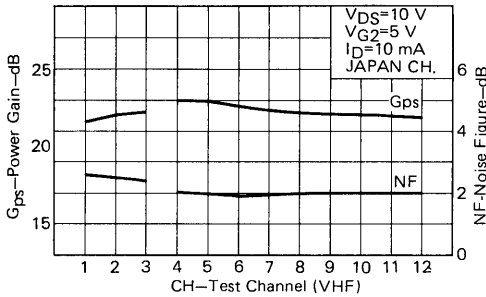
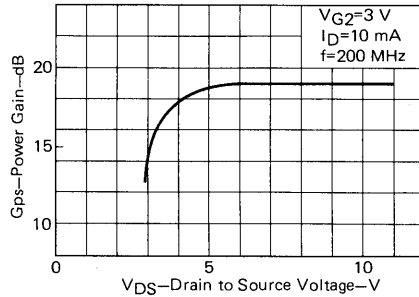

Fig. 1 Power Gain and Noise Figure vs. VHF Channel
Fig. 2 Power Gain vs. Drain to Source Voltage
Fig. 1 and Fig. 2 show the measured values of power
Fig. 1 shows the noise figure (NF) of 3SK74. NF at about 200 MHz is 2 dB.